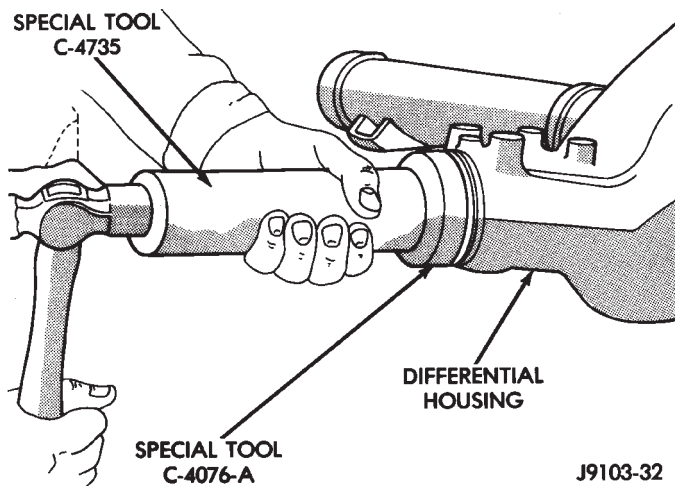

Fig. 32 Pinion Seal Installation
(6) Install pinion front bearing, and oil slinger, if equipped.
(7) Apply a light coating of gear lubricant on the lip of pinion seal. Install seal with Installer C-4076-B and Handle C-4735-1 (Fig. 32).